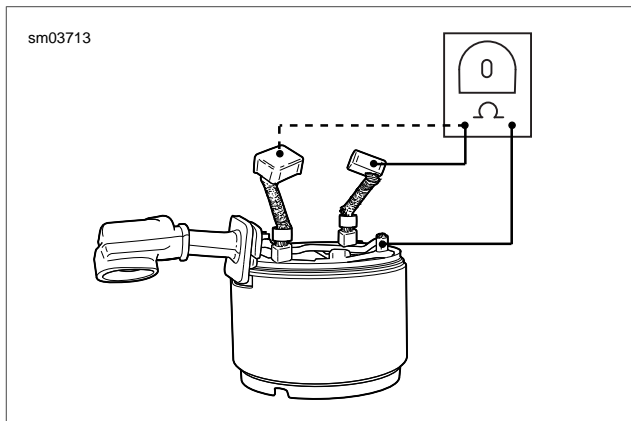

Figure 5-7. Open Field Test
4. See Figure 5-7. Check for an OPEN FIELD COIL WINDING with an ohmmeter or continuity tester.